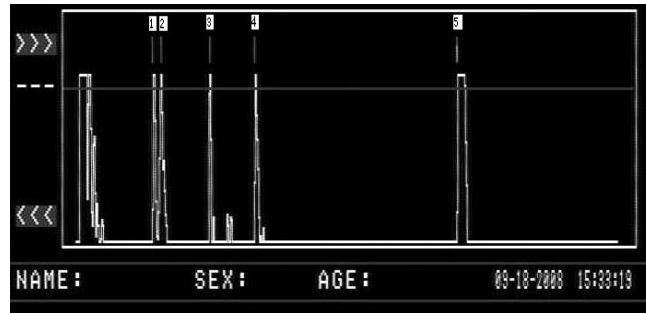

Fig 4-10: five-point marking
When a bundle of ultrasonic goes through optic axial, we can get ultrasonic reflex from five different layers (Fig 4-10), including: (1) cornea vertex; (2) back of cornea; (3) front of lens; (4) back of lens; (5) retina.